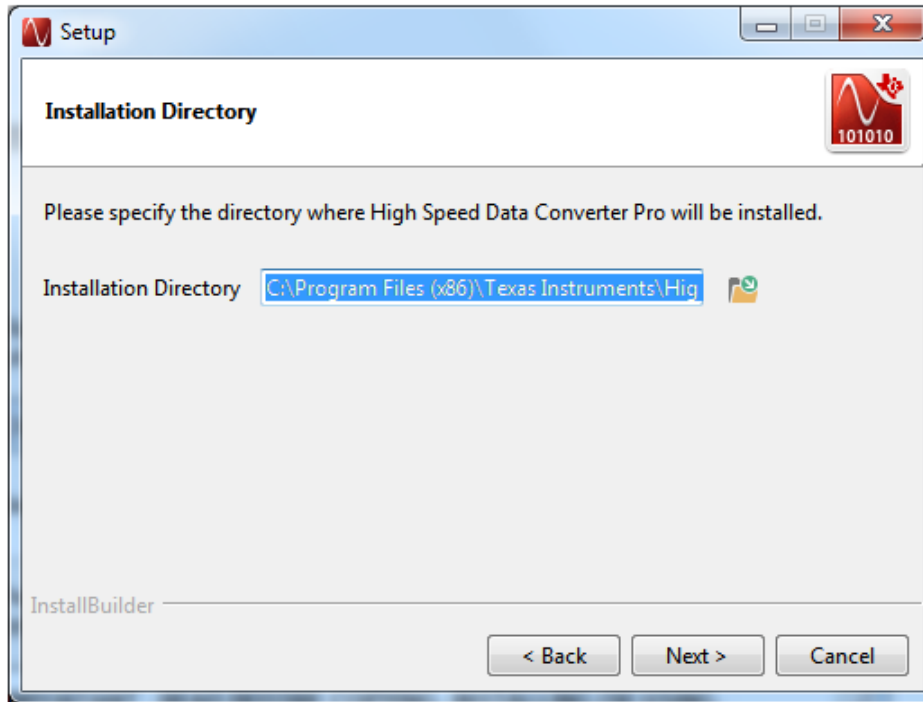

Figure 28. HSDCPro Install (Install Directory)
5. Allow the installation to be placed in the default directory by clicking *Next*, as in Figure 28.